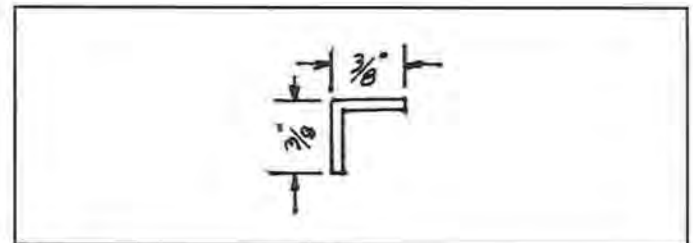

Figure 6.
*Step 11.* Bend each piece, in a vise, at 90° at the pencil mark. (See Figure 6.)